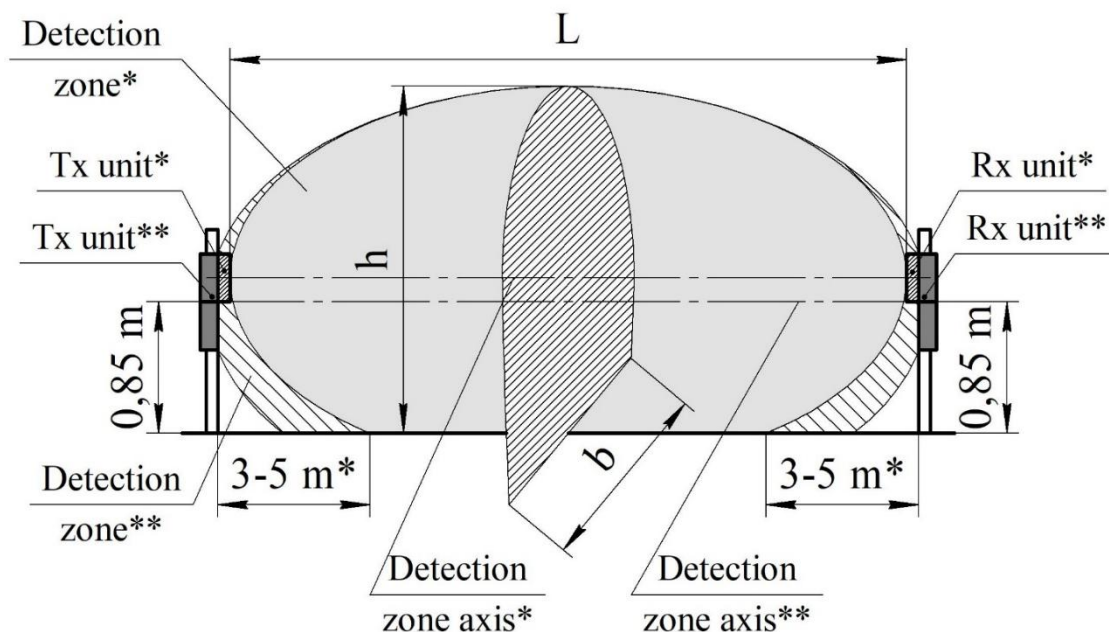

Figure 1.1 – The configuration of the detection zone formed by the sensors installed on poles
1.2.1 The configuration of the detection zone formed by the sensors installed on poles, maximum operation range of the sensors, minimum operation range of the sensors, width of the sensors detection zone, height of the sensors detection zone are given in Figure 1.1 and Tables 1.1, 1.2.